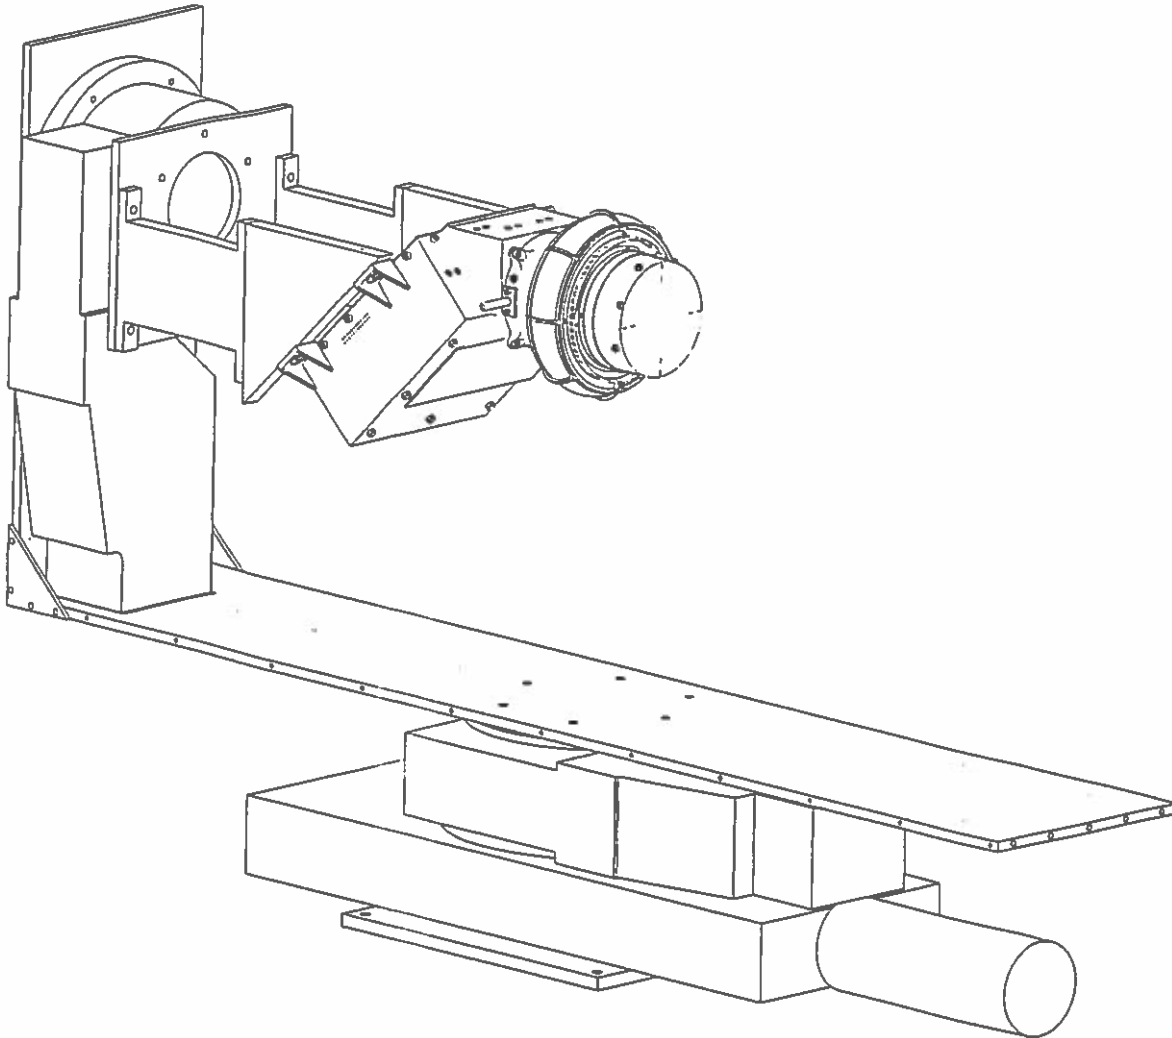

Figure 1. IES Installation in Calibration Chamber
- \_\_\_\_\_ i) Install the Unit Under Test (UUT) in the calibration chamber as shown in Figure 1.